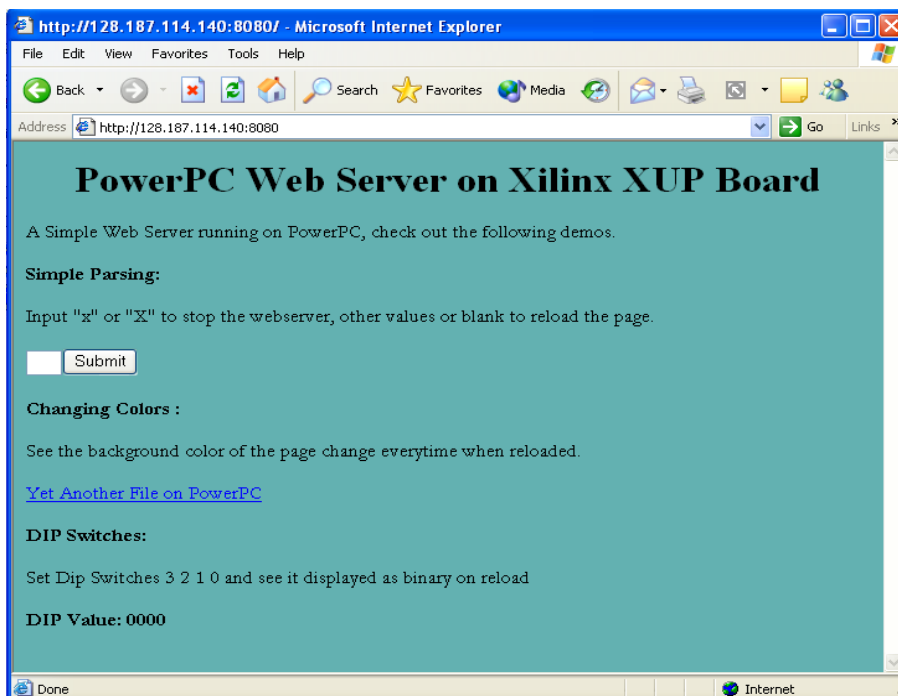

Figure D-13: Web Server Display
2. Open a Web browser, and type in “http://YOUR XUP PRO BOARD IP ADDRESS:8080” in for the address, and you will see a Web page sent from the XUP Pro board as shown in Figure D-13.